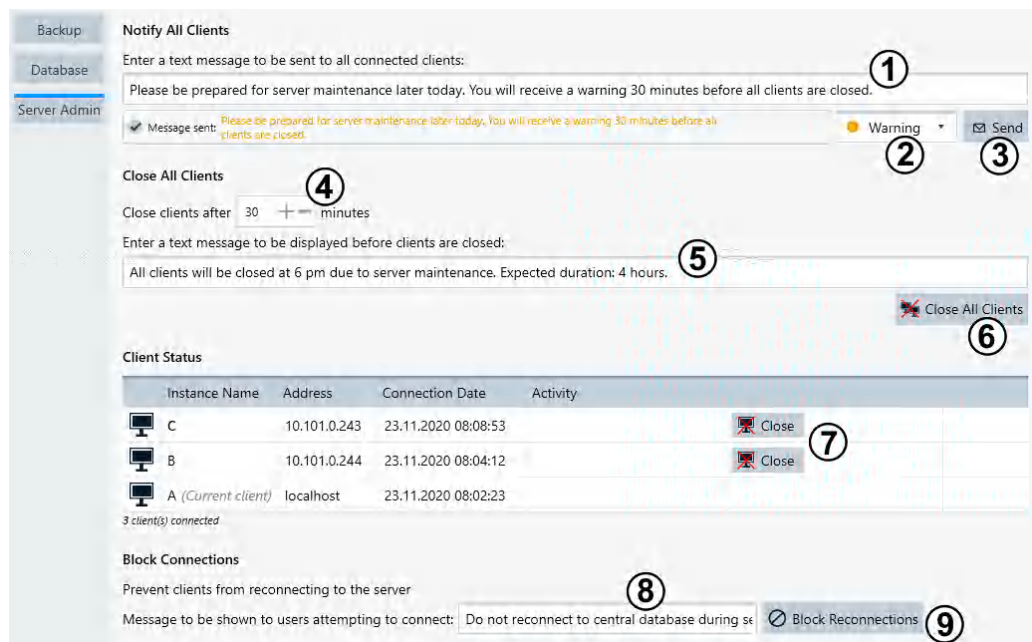

Figure 4-186: Example of the Server Admin dialog with remote clients B and C
As the user of the central database, select countdown settings (labeled 4 in Figure 4-186) for the time before all connected clients are closed. You cannot close clients immediately; the minimum time before closing is 1 minute. Also, enter a shutdown message (5) to be sent to all clients before closing.
As the user of the central database, you can prevent clients from reconnecting by clicking "Block Connections" (labeled 9 in Figure 4-186). Each remote client that tries to reconnect while reconnecting is blocked receives your text message (8) while R&S ELEKTRA tries to start. Then, the client automatically shuts down again.